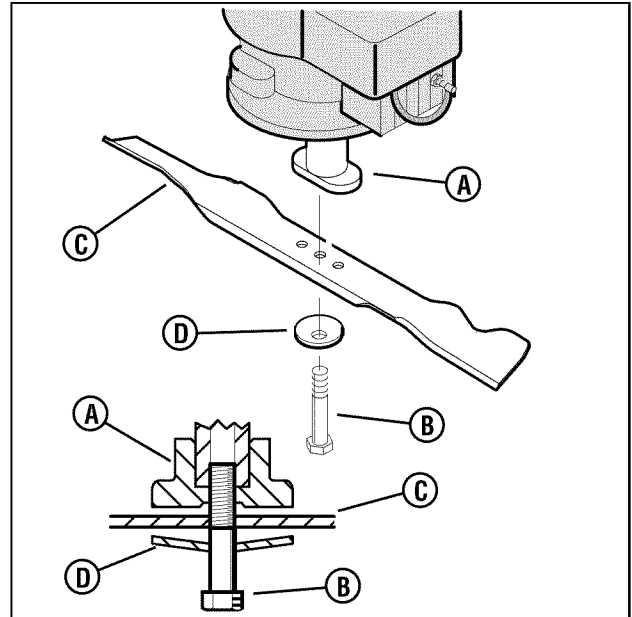

Figure 24: Removing the blade
Frequently check the blade for wear or damage such as cracks. Frequently check the bolt that holds the blade. Keep the bolt tight. If the blade hits an object, stop the engine. Disconnect the wire to the spark plug. Check the blade adapter (**A, Figure 24**) for damage. Check for a bent or damaged blade, a badly worn blade, or other damage. Before you operate the unit, damaged parts must be replaced with factory replacement parts. For safety, replace the blade every two years. Keep a sharp edge on the blade. A blade that is not sharp will cause the ends of the grass to become brown. Remove the blade as follows.
4. Remove the bolt (**B, Figure 24**) that holds the blade with a 9/16" (14mm) wrench.